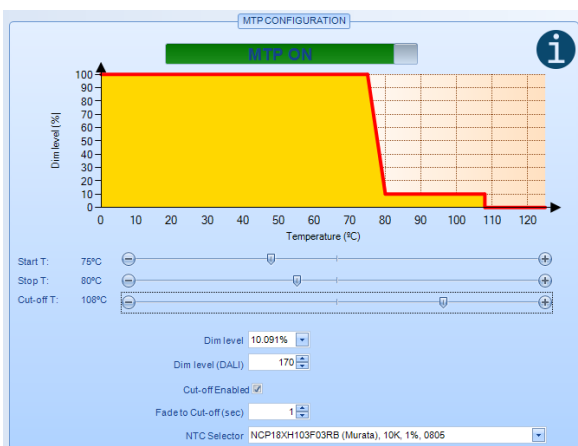

Fig. 10- MTP with cut-off temperature
- **With cut-off temperature** (Fig. 10). The driver will restart when temperature falls 5°C below Start T.